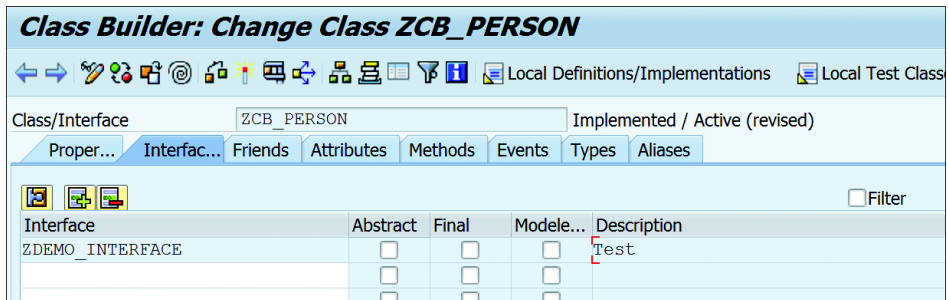

Figure 8.16 Including Interface in Global Class
3. You can include the interface in a global class under the INTERFACES tab, as shown in Figure 8.16.